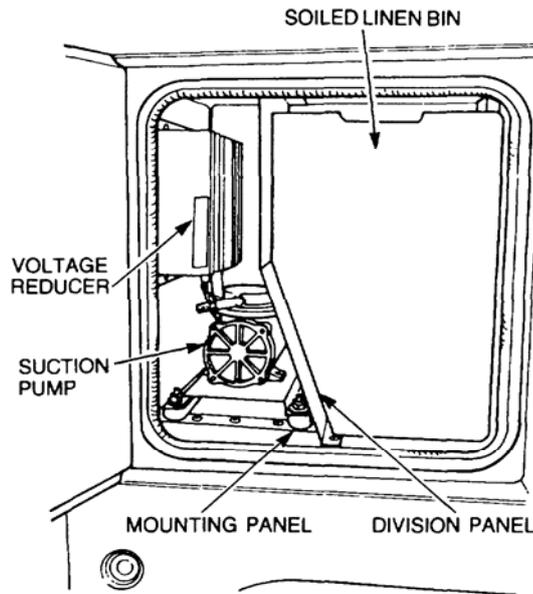

Figure 23 Suction Pump Removal
- c. Remove the screws securing the division panel in the soiled linen locker (refer Figure 23).